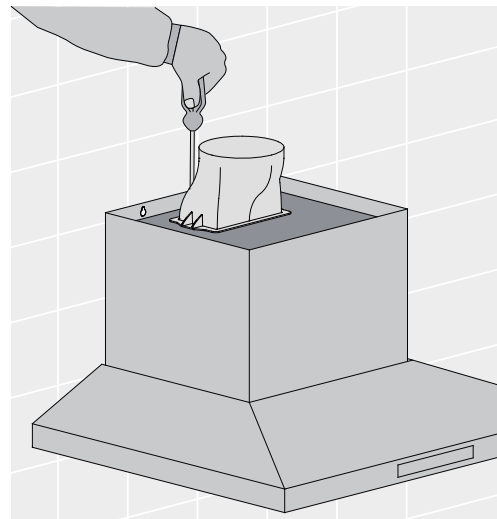

Fig. 8
4. Fix exhaust transition duct using screws supplied (Fig. 8).